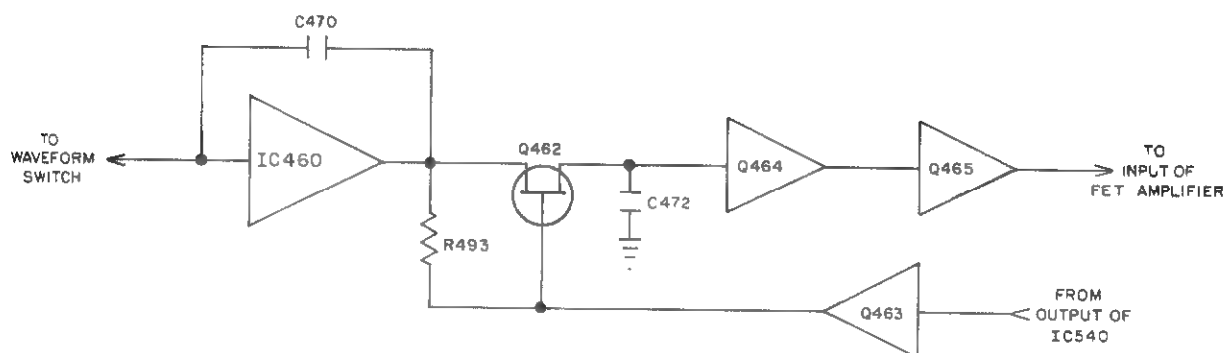

Figure 12. Symmetry Correction Loop
4.7 SYMMETRY CORRECTION LOOP (see figure 12)